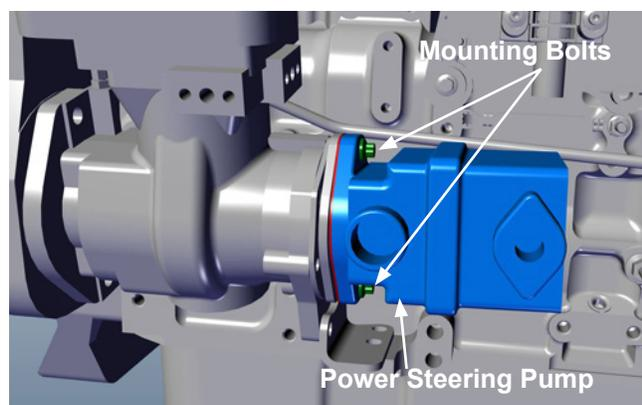
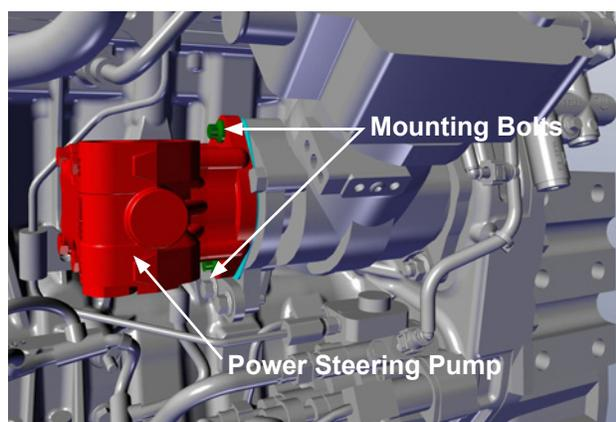

Figure 3, Cummins L9
Figure 4, Cummins X12
3. Remove the power steering pump mounting bolts, one at a time, for the Cummins L9 engine (see Figure 3), or for the Cummins X12 engine (see Figure 4). Apply blue thread locking compound (obtain locally) and tighten to 34 lb-ft (46 N·m) of torque.